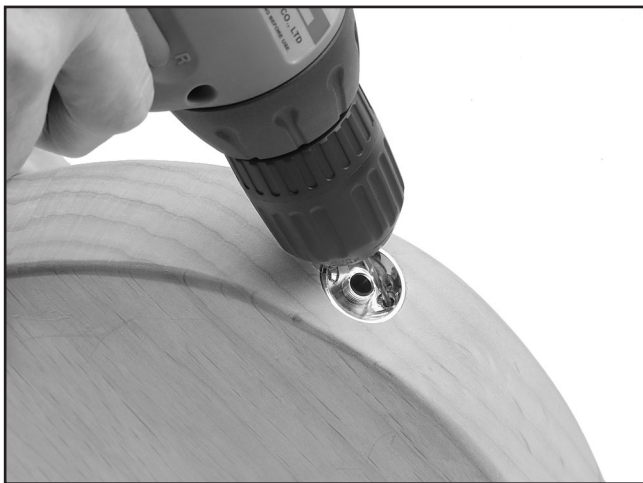

Figure 22. Drilling output jack mounting holes.
3. Using a $\frac{1}{16}$ " drill bit, drill $\frac{3}{8}$ " holes at a 45° angle into the body as shown in **Figure 22**.